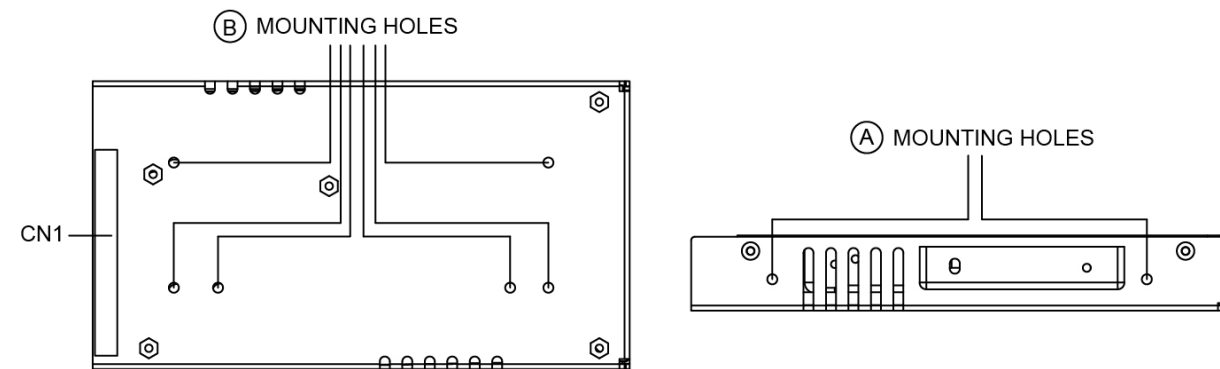
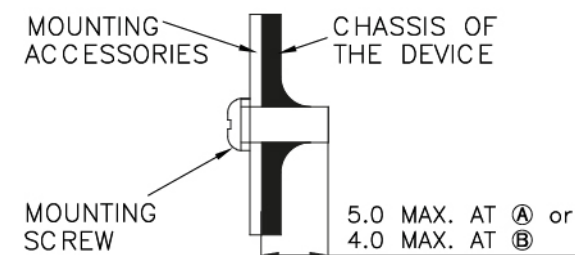

Fig. 3 Mounting Hole Locations
Fig. 4 Assembly Reference
- Ⓐ Side Mounting: Fig. 2 and Fig. 3 show the mounting hole locations for power supply assembly onto a metal mounting surface. The power supply shall be mounted on minimum of 2 mounting holes using M4 screw of maximum 5mm length (Refer to Fig. 4). This is to maintain a safety distance between the screw and internal components.
- Ⓑ Base Mounting: Fig. 2 and Fig. 3 show the mounting hole locations for power supply assembly onto a metal mounting surface. The power supply shall be mounted on minimum of 4 mounting holes using M4 screw of maximum 4mm length (Refer to Fig. 4). This is to maintain a safety distance between the screw and internal components.